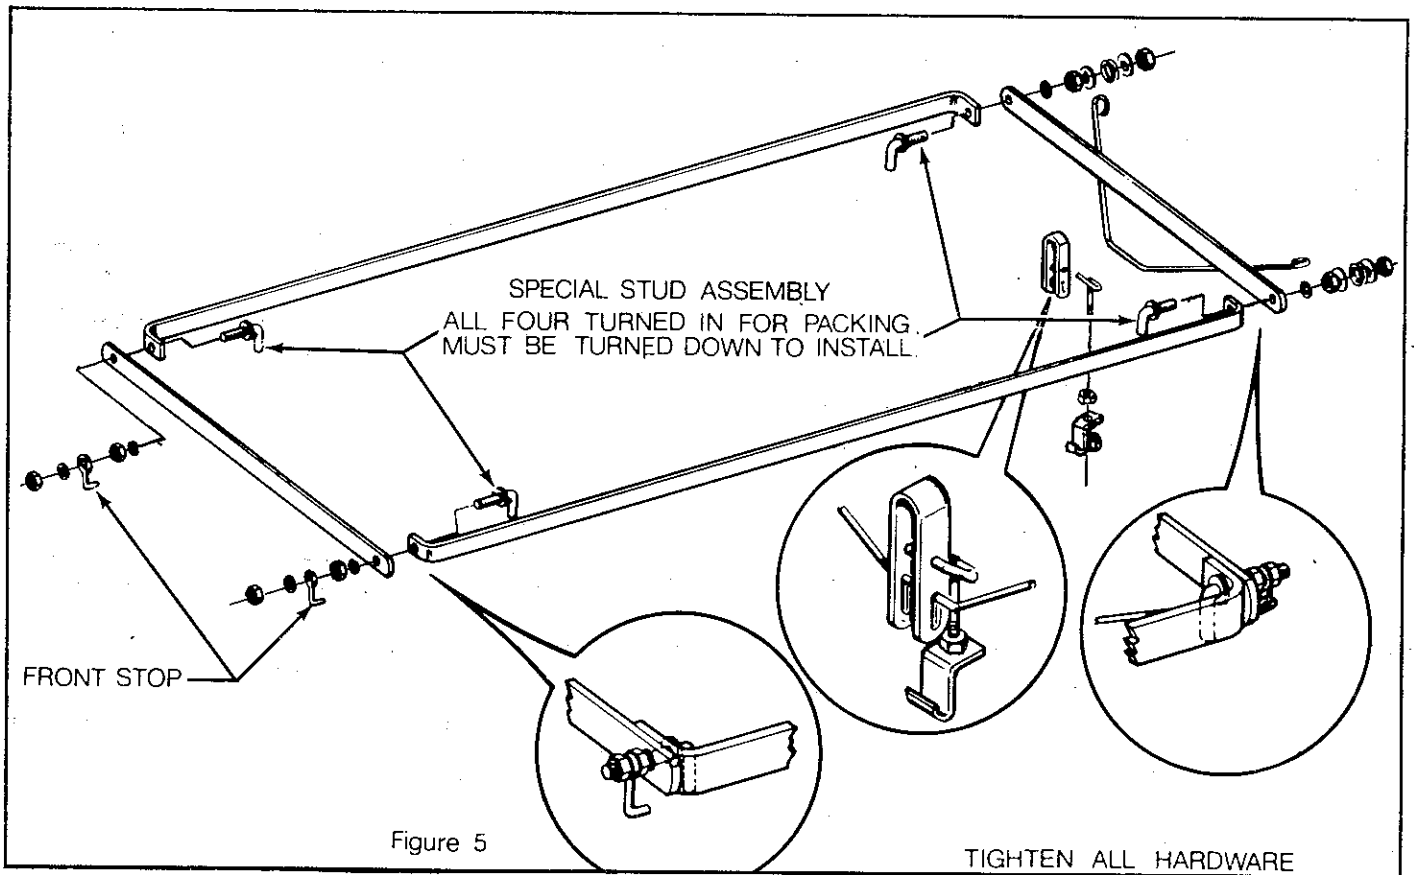

Figure 5
1. Install the front stops on the cover front frame (the end with the hose sleeve). The special studs are inserted from the inside (Figure 5).